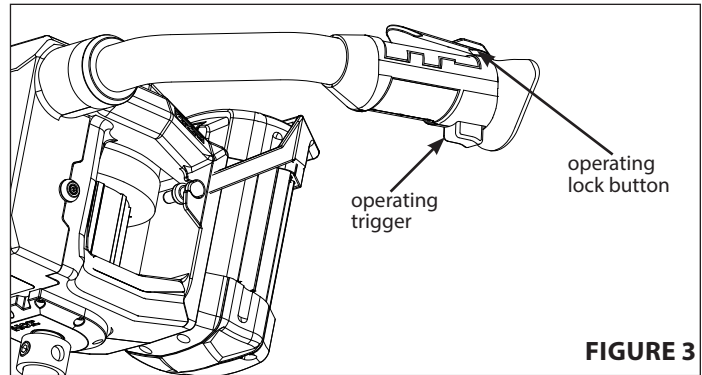

FIGURE 3
2. Compress the operating lock button, then squeeze the operating trigger. Following a two-second safety delay, the auger will then start drilling. **SEE FIGURE 3**